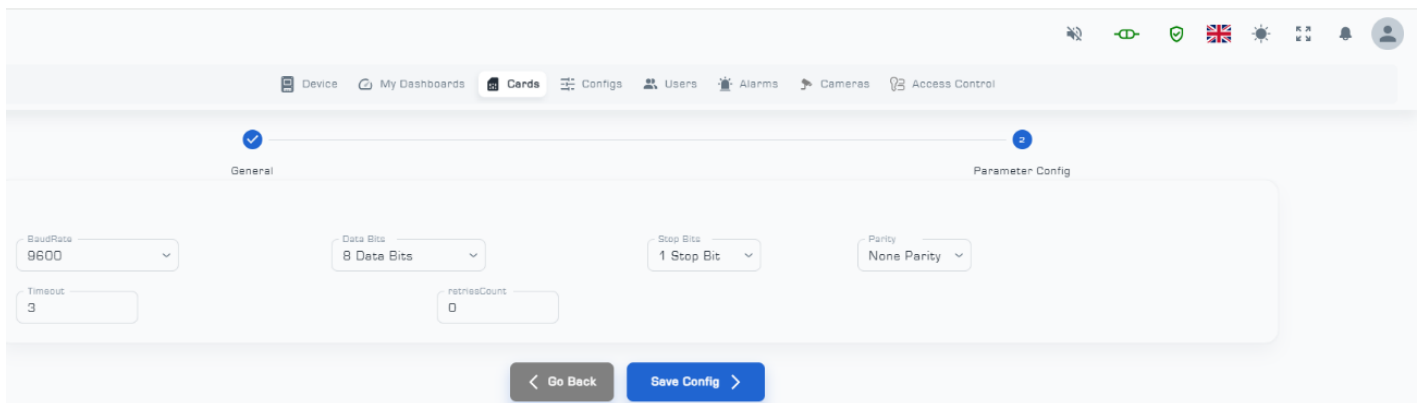

Figure 43: Second page of settings on the card
(4) Click on 'Next Step' for further configuration.
(5) Make the necessary changes in the 'BaudRate,' 'Data Bits,' 'Stop Bits,' 'Parity,' 'Timeout,' and 'retriesCount' sections (Figure 43).
(6) Finally, click on the 'Save Config' button to save the initial settings (Figure 43).